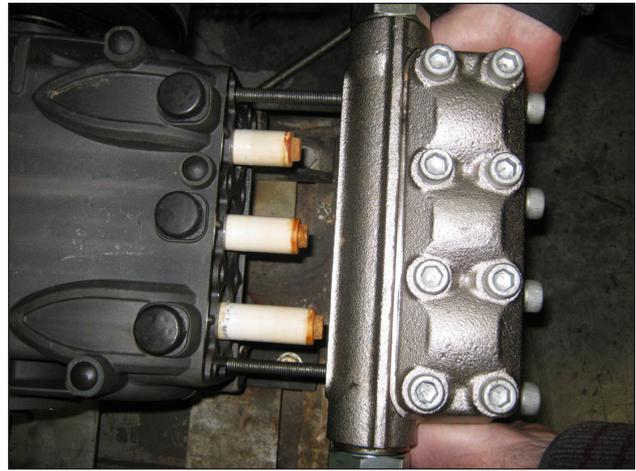

Fig. 29
- B) Lubricate the components ②③⑤ with OCILIS silicone grease code 12001600. This operation is deemed necessary to facilitate the lip seal adjustment on the piston.
- 1. Using two screws – service pins (code 27726000), fasten the casing as indicated in (Fig. 29). Position the complete head, making sure that it is centred only on the central piston.